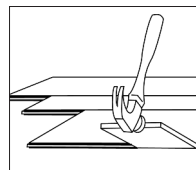

Figure 11
- It may be necessary to align product with a cut-off piece of scrap as shown (Figure 11 – Keep scrap angle low to avoid edge damage).